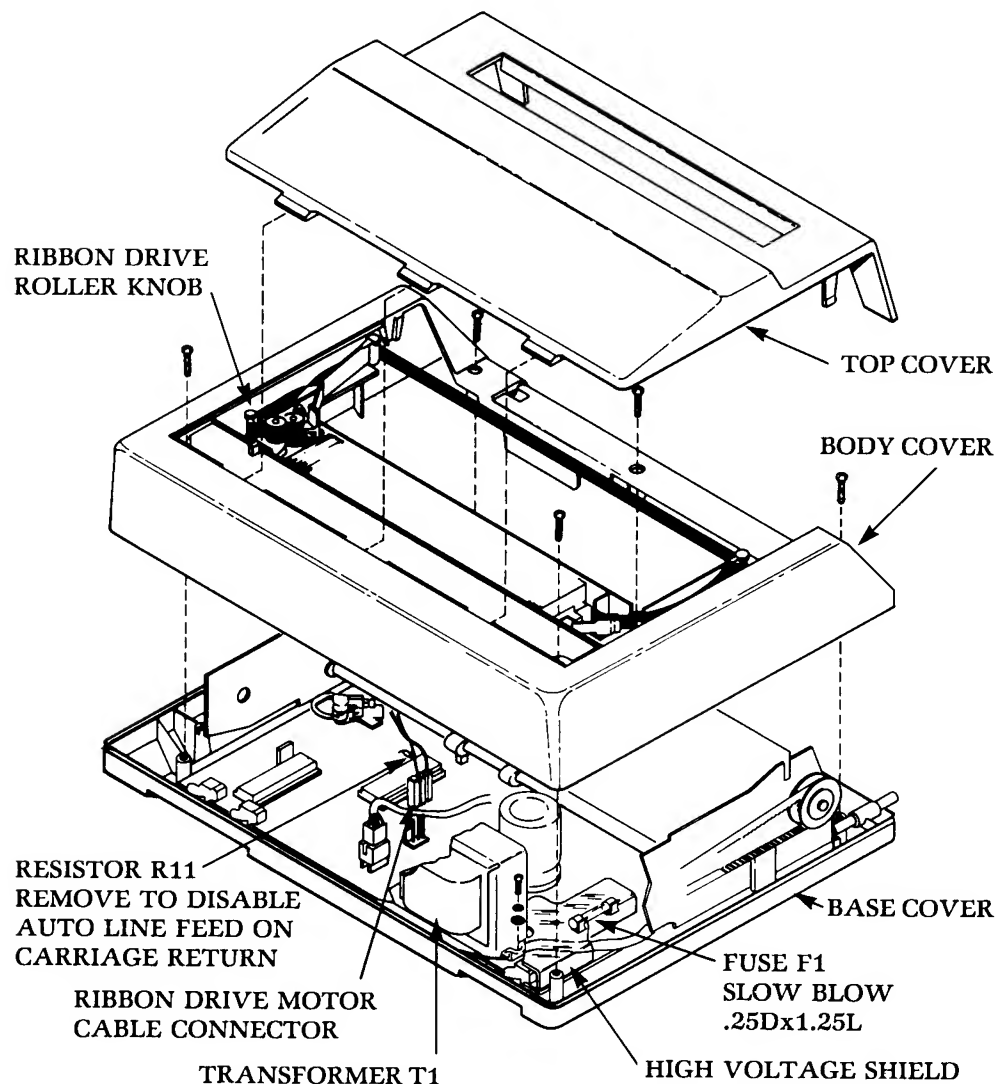

Figure 12. Removal of Cover Assemblies
Refer to Figure 12. The fuse is located in the right corner of the PC board, under the high voltage shield.
The auto-linefeed function can be disabled by removing resistor **R11** from the printed circuit board. Refer to Figure 12 and proceed as follows:
10. Locate resistor **R11** on the PC board (see Figure 12). With side cutters, cut the lead **furthest** from the large IC chip.